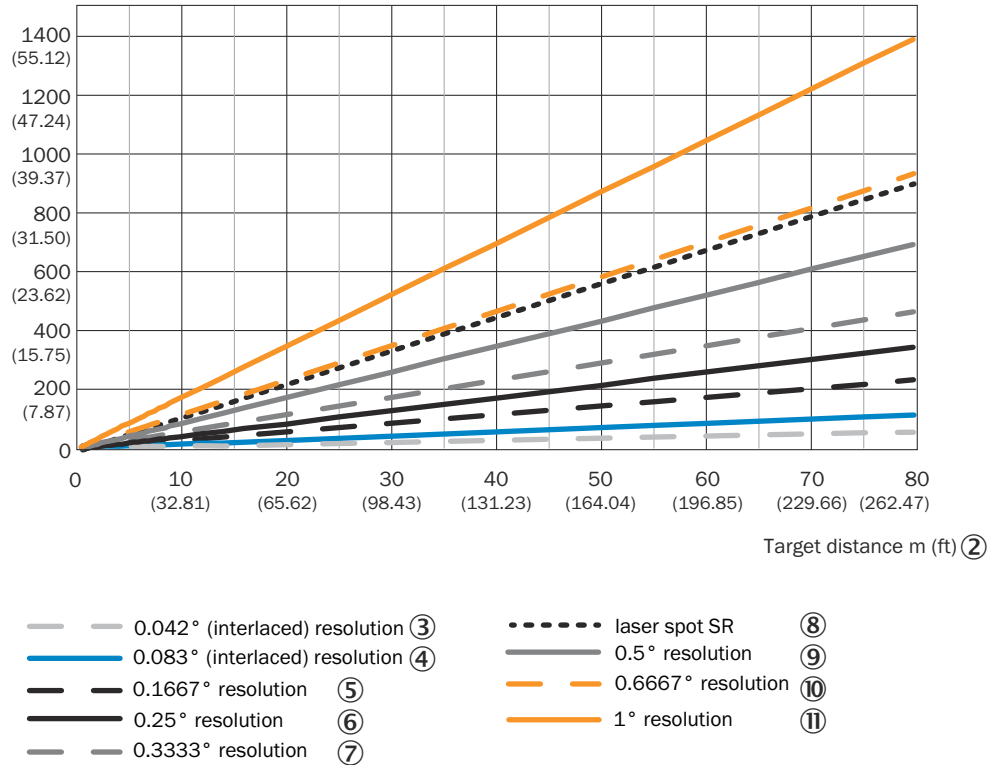
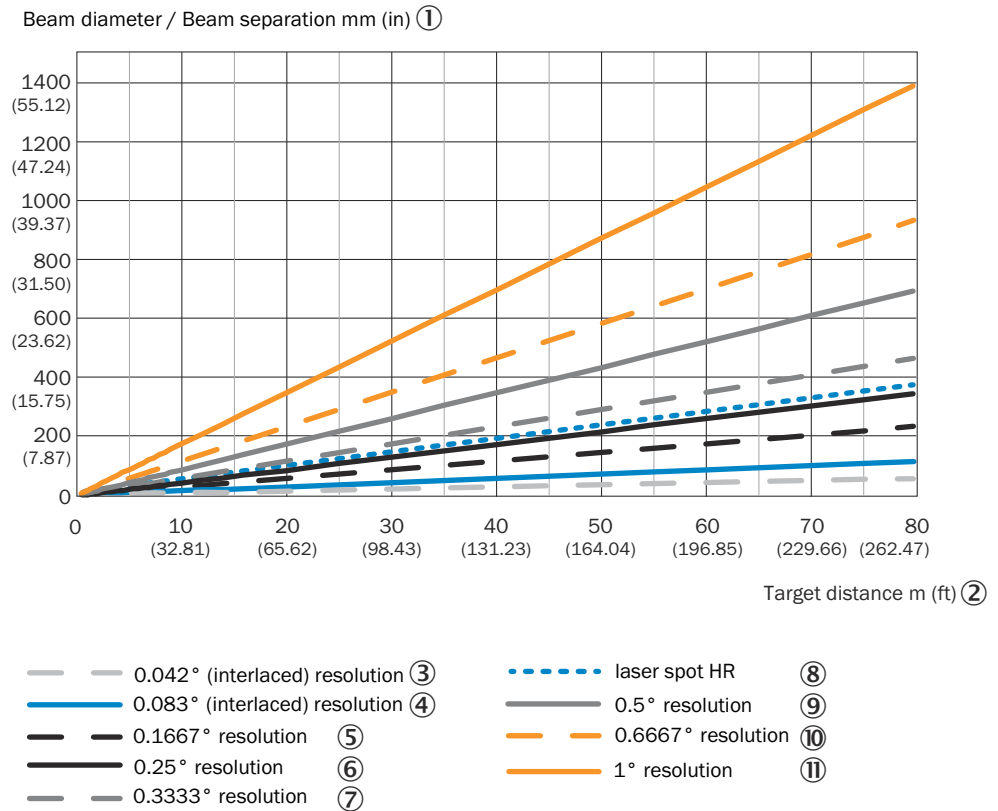

Figure 18: Beam diameter and measuring point distance at 0 to 80 m (SR)
Figure 20: Beam diameter and measuring point distance at 0 to 80 m (HR)
- ② Distance of the target [m] (in)
- ③ Resolution 0.042° (interlaced)
- ④ Resolution 0.083° (interlaced)
- ⑤ Resolution 0.1667°
- ⑥ Resolution 0.25°
- ⑦ Resolution 0.3333°
- ⑧ Beam diameter SR
- ⑨ Resolution 0.5°
- ⑩ Resolution 0.6667°
- ⑪ Resolution 1°
Reading example for an angular resolution of 0.1667° (SR) in figure 18
- Distance intersection point 30 m with the characteristic curve for beam diameter results in a beam expansion of approx. 370 mm (SR).
- ⑧ Beam diameter HR
Reading example with angular resolution 0.1667° (HR) in figure 20
- Distance intersection point 30 m with the characteristic curve for beam diameter results in a beam expansion of approx. 150 mm (HR).
- Beam diameter and measuring point distance as a function of the distance to the device can be seen in the diagram in see figure 18, page 27 or see figure 20, page 29